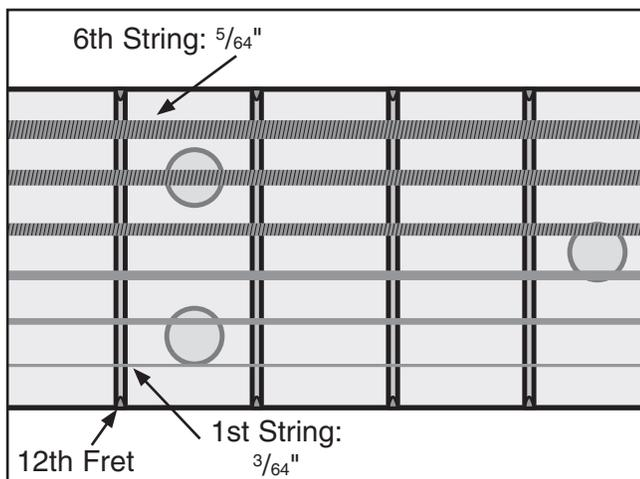

Figure 32. Correct 12th fret string heights.
2. Measure the string height at the twelfth fret, as shown in **Figure 32**.